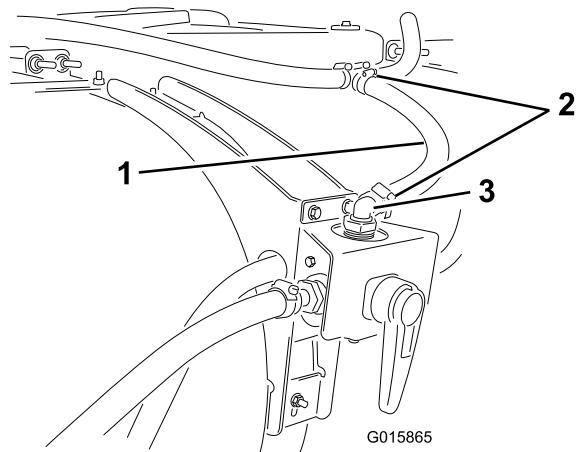

Figure 37
3. Install the hose to the open end of the tee fitting installed previously (Figure 37).